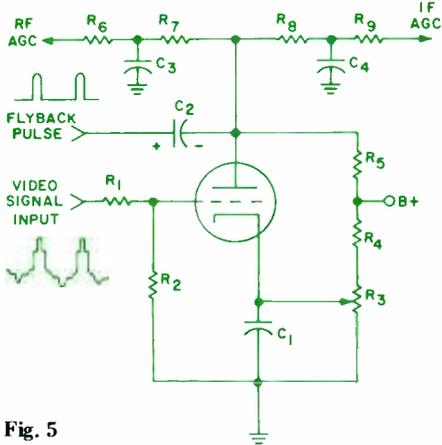
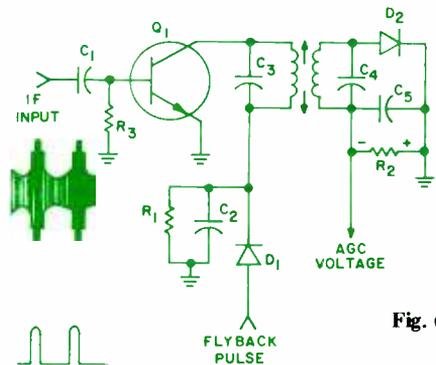

Fig. 5
Fig. 6
Fig. 5 shows a typical keyed agc system. The agc control voltage is de-
Fig. 6 shows another simple keyed agc system. As you can see, this circuit is from a transistorized TV receiver. A transistor agc circuit could be designed to operate exactly the same as the vacuum tube circuit of Fig. 5, but this particular circuit is a bit different. The transistor in the diagram is actually an i-f amplifier, and its input is obtained from the last regular i-f amplifier in the receiver. The i-f amplifier shown here is used only for agc; its output is not used to supply the video signal. Notice that no dc voltages are applied to the transistor amplifier stage. Instead, a positive pulse from the flyback transformer is used to supply collector voltage. The values of R_1 and C_2 are chosen so that C_1 discharges very rapidly. This means that the amplifier will work only while the flyback pulse is present. Since the sync pulse is the only part of the modulation signal that coincides with the flyback pulse, only this part of the i-f signal will be amplified. The output is applied to a detector circuit to convert the signal into a dc voltage. This voltage will be in proportion to the sync pulse amplitude, and therefore to signal strength.
4. Capacitor C_2 in Fig. 6 is usually a large-value electrolytic.
5. If capacitor C_2 in Fig. 5 becomes open, the agc voltage will become positive.